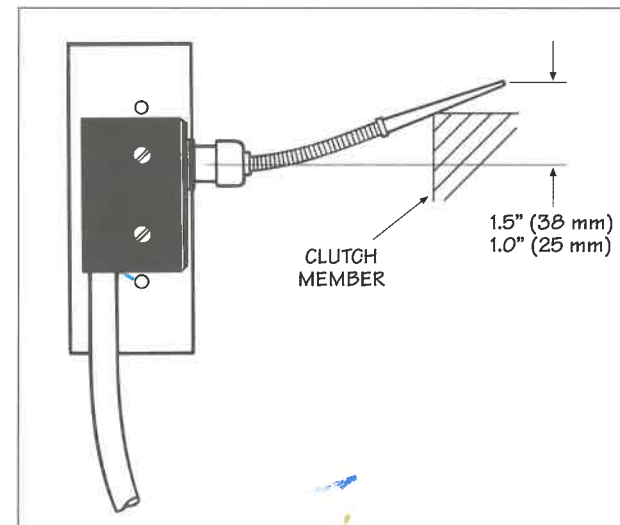

FIG. 23
3. Adjust the switch by moving the switch along the mounting bracket. The actuator arm should be deflected 1.0 - 1.5" (25 - 38 mm), measured at the tip of the actuator, when the clutch pedal is in the up (clutch engaged) position (see Fig. 23).